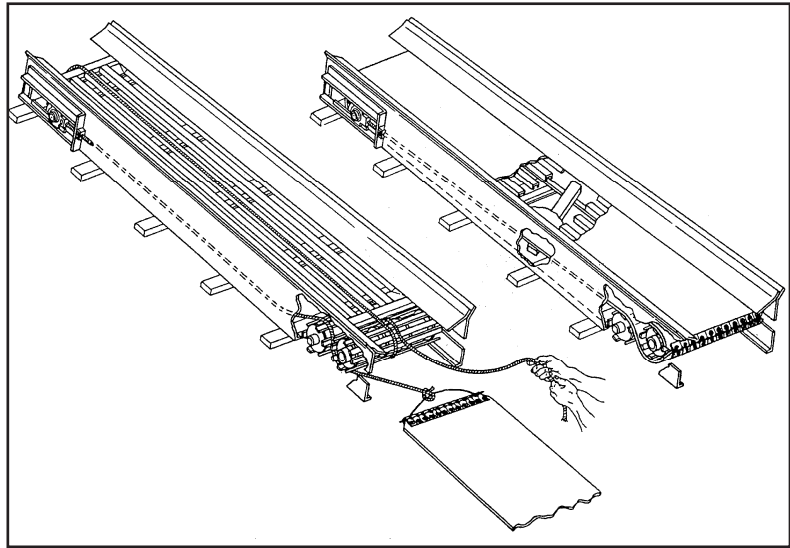

Figure 6 – #5 Belt Installation
12. Shut off all power and insert lumber under belt to support its weight as shown in Figure 6.